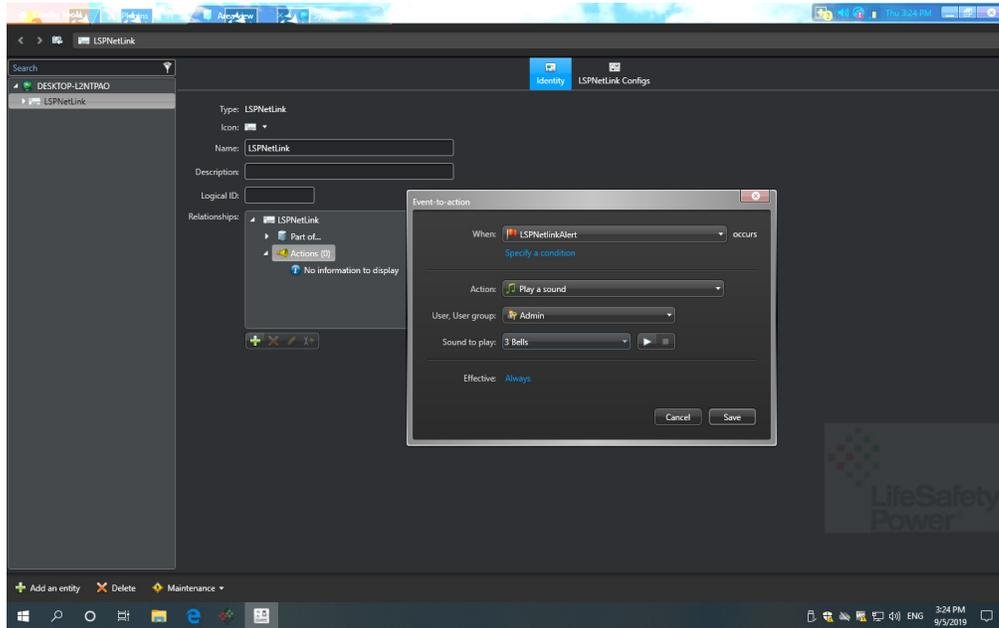

Figure 30
14. To allow LSPNetLinkAlert events to automatically trigger an action, go to the Area View page in the config tool, select the LSPNetLink Entity, and click the Identity Tab. Select "Actions" and click "+" to create an Event-to-Action as shown. (Figure 30).